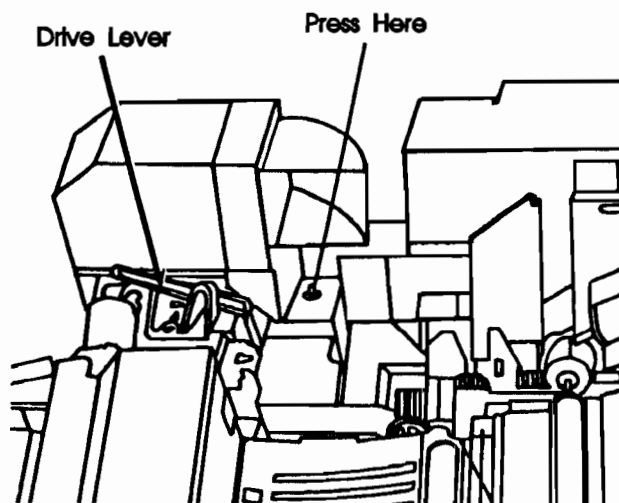

Figure 7-27. Fuser Circuit Breaker Reset
The main components of the fusing system are the fusing lamp and its associated fusing and pressure rollers, a Thermistor, Thermoprotector, and the AC controller/safety circuitry in the AC Power Module. AC voltage is applied to the fuser bulb via the AC Power Module circuitry which is regulated by the FUSER DRIVE (FSRD) signal from the DC Controller PCA. Feedback to the DC Controller is provided by the Thermistor Signal (FSRTH). The thermoprotection switch is designed for over temperature protection and opens when the temperature reaches 210° C. Overcurrent protection for the fusing system is provided by circuit breaker CB101 on the AC Power Module (see Figure 7-27).
2. Is the circuit breaker on the AC Power Module tripped?	Reset breaker. (See Figure 7-27). If the breaker trips again, replace the Fusing Assembly or the AC Power Module.